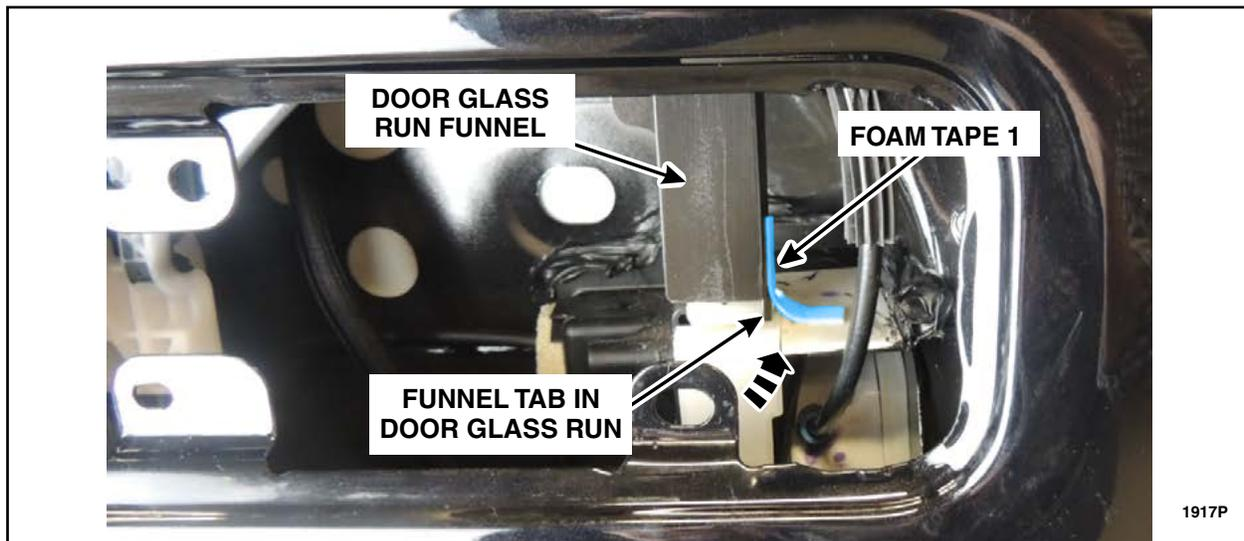

FIGURE 52
26. Using a clean shop towel and isopropyl alcohol clean the area where the Foam Tape 1 will be applied, from any dirt, dust or debris, then install Foam Tape 1 in the location shown, from though the exterior door handle opening, to hold the funnel in place. See Figure 52.